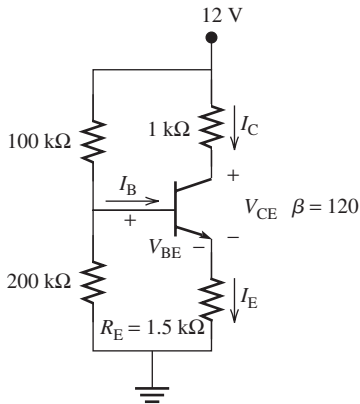
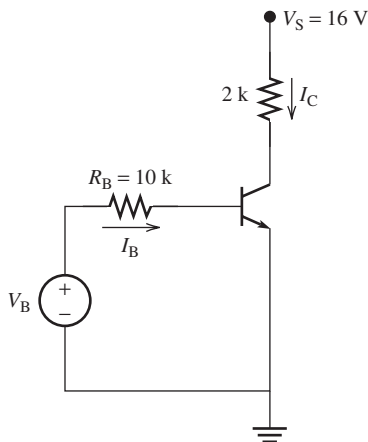
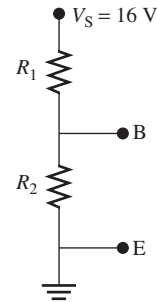

FIGURE P8.42 Circuit for Problem 8.42.
FIGURE P8.44 Transistor circuit for Problems 8.44 and 8.45.
FIGURE P8.45 Hint circuit for Problem 8.45.
- 8.42** (A) For the circuit shown in Figure P8.42, find V_{BE} , I_B , I_C , and V_{CE} .
- 8.43** (B) Find the equivalent circuit of the one shown in Figure P8.42. (Hint: the equivalent circuit looks like the one shown in Figure P8.44.)
- 8.44** (A)* For the circuit shown in Figure P8.44, find V_B such that $I_C = 6$ mA. $\beta = 200$.
- 8.45** (H) If $V_B = 4$ V for the circuit shown in Figure P8.44, find an equivalent circuit replacing V_B and R_B , having the source from V_S . (Hint: The circuit looks like Figure P8.45.)